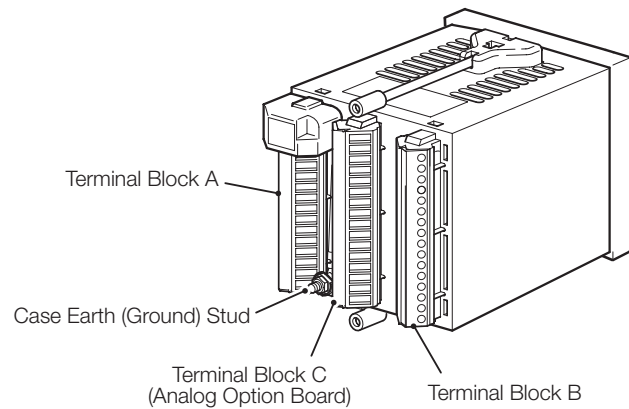

Fig. 6.10 Access to Terminals, Panel-mount Analyzers
- **Earthing (grounding)** – a case earth (ground) stud is fitted to the analyzer case for bus-bar earth (ground) connection – see Fig. 6.8 (wall-/pipe-mount analyzers) or Fig. 6.10 (panel-mount analyzers).
6.5.1 Access to Terminals – Fig. 6.10
- 2) Connect the millivolt source to terminals B16 (+ve) and B14 (-ve) to simulate the pH or Redox input. Connect the millivolt source earth to the Case Earth (Ground) Stud – see Fig. 6.8 (wall-/pipe-mount analyzer) or Fig. 6.10 (panel-mount analyzer).
- 2) Connect the millivolt source to terminals B8 (+ve) and B6 (-ve) to simulate the pH or Redox input. Connect the millivolt source earth to the Case Earth (Ground) Stud – see Fig. 6.8 or (wall-/pipe-mount analyzer) or Fig. 6.10 (panel-mount analyzer).